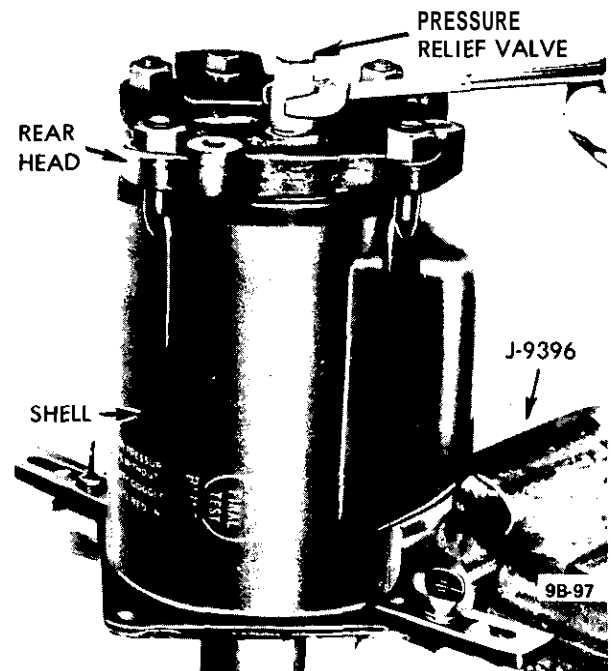

Figure 9B-123 Compressor Installed in Holding Fixture
5. Reinstall compressor in holding fixture (J-9396) positioned as shown in Figure 9B-123.
6. Unscrew and discard four lock nuts from rear of compressor, and lift off rear head by tapping it with a mallet. If Teflon sealing surface is damaged (see Figure 9B-124), replace rear head. Clean or replace suction screen as necessary.